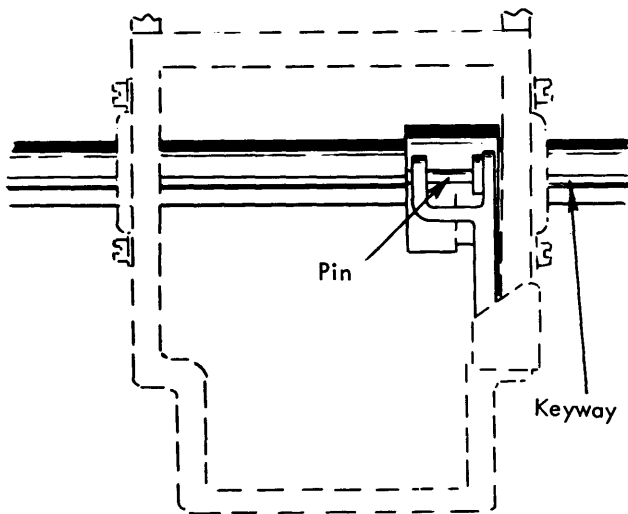

FIGURE 82. *Keyway In Line With Roller*
- a. With the machine resting on its back, slowly hand cycle a high velocity character until the leading edge of the print shaft keyway lines up with the center of the roller pin on the cam follower (Fig. 82).